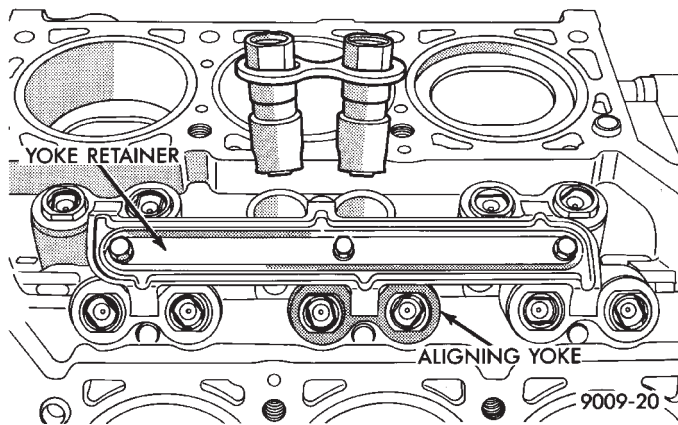

Fig. 25 Roller Tappets Aligning Yoke and Retainer
Roller tappet alignment is maintained by machined flats on tappet body being fitted in pairs into six aligning yokes. The yokes are secured by an alignment yoke retainer (Fig. 25).
(4) Install yoke retainer and torque screws to 12 N•m (105 in. lbs.) (Fig. 25).
(5) Install cylinder heads. Refer to cylinder head installation of this section for procedure.
(6) Start and operate engine. Warm up to normal operating temperature.